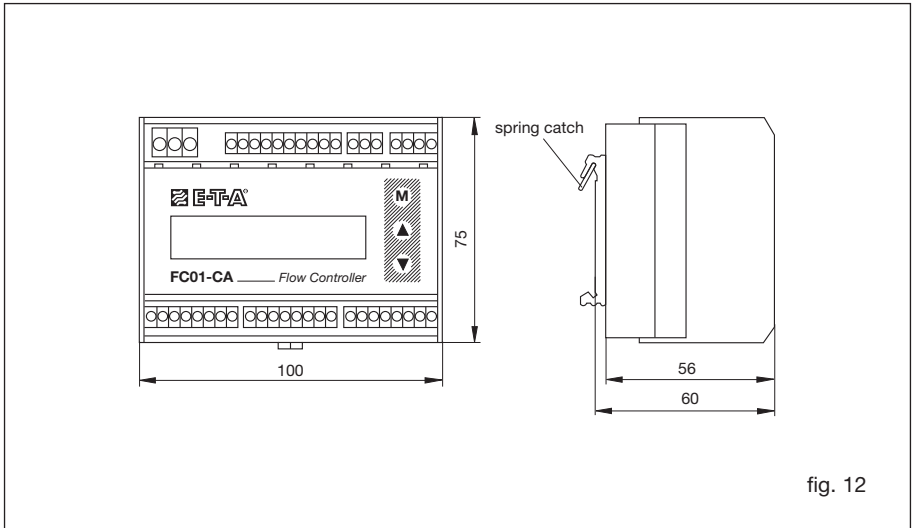

fig. 12
2.2.1.1 Rail-mounted version FC01-CA-U1... (fig. 12)